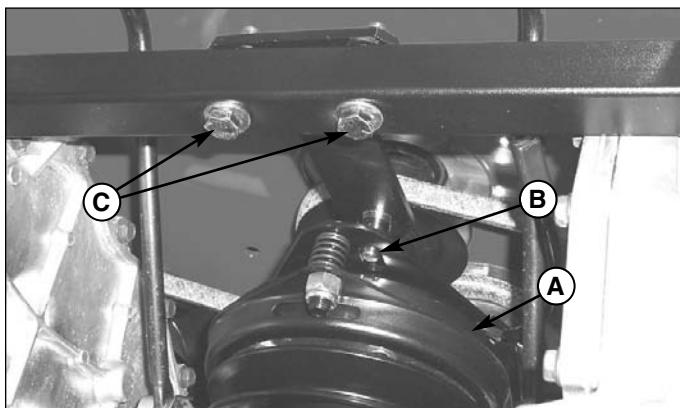

**Figure 32. Roller Bar Leveling**
5. Locate the roller bar leveling hardware on the right side of the mower deck (A, Figure 32). Loosen the hardware and raise or lower the roller bar until the correct level is achieved, then tighten the hardware. Repeat steps 4 & 5 if necessary.